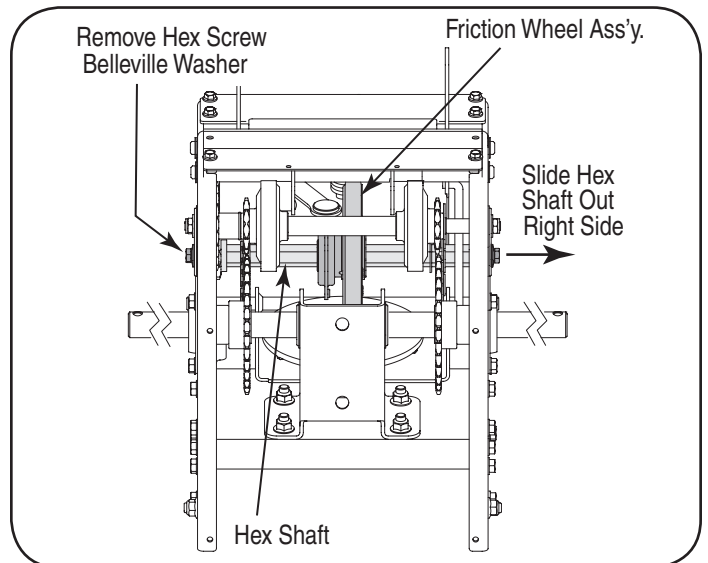

Figure 31
4. Using a 3/4" wrench, hold the hex shaft and remove the hex screw and belleville washer and bearing from left side of the frame. Refer to Figure 31.